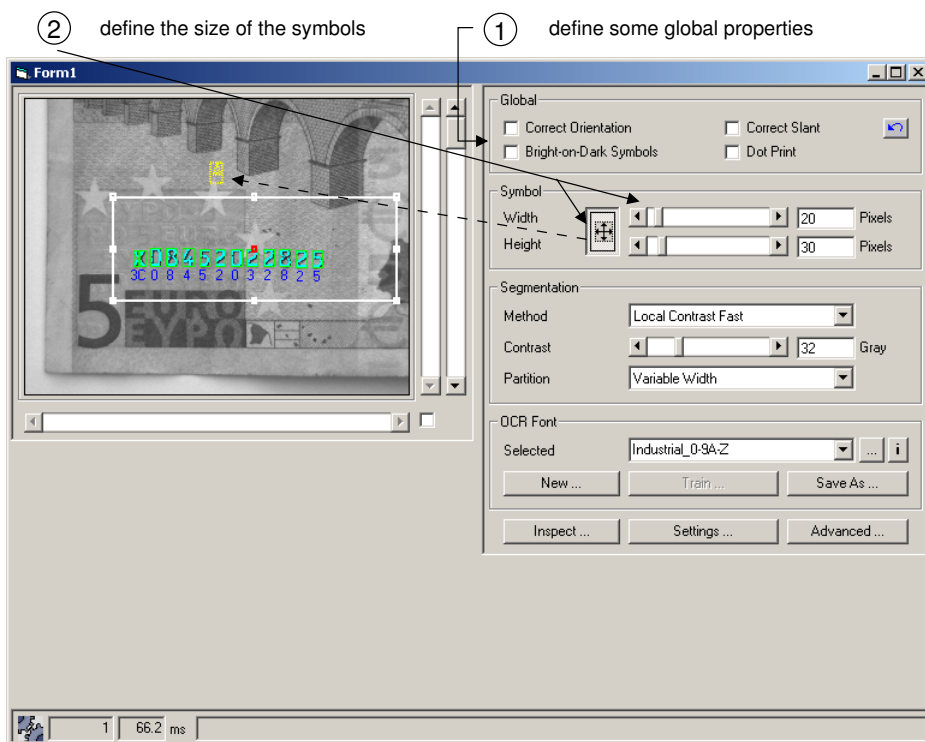

Figure 2.2: Extracting the symbols from the Image.
- ☐ Execute the application (Run > Start or via the corresponding button) and load the image sequence `ocr\money1.seq`. If necessary, place an axis-aligned, rectangular ROI as shown in figure 2.2; AVTViewFG and AVTViewROI can be opened at run time via a right mouse button click on AVTView.
The following steps are visualized in figure 2.2.